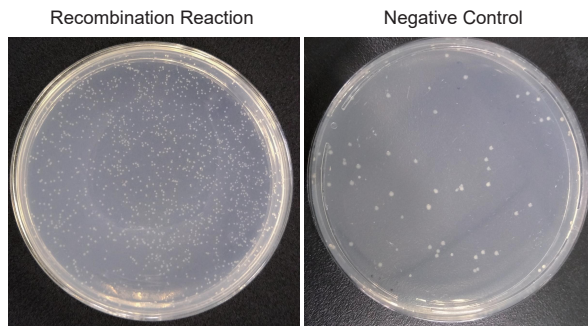

Fig 5. Plates Incubated Overnight
- ◇ After overnight incubation, hundreds of single clones will form on the plate of recombination reaction, whereas fewer of those on the plate of negative control (Fig 5).